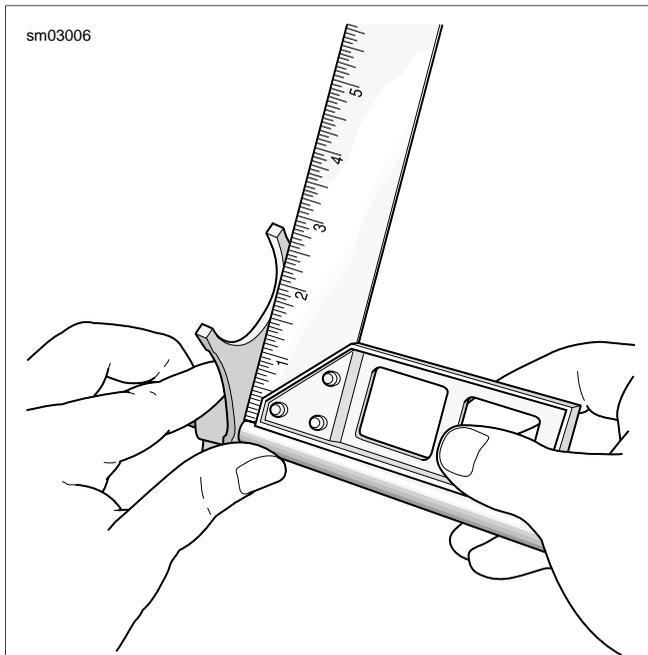

Figure 7-24. Checking Fork
7. See Figure 7-24. Using a small carpenter's square, verify the shift forks are square. If shift fork does not rest directly on the square, then it is bent and must be replaced.